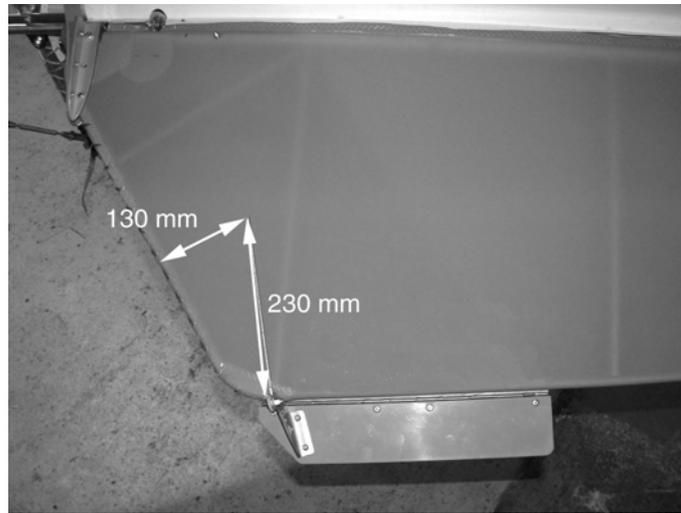

Figure 128; position of hole in top elevator surface.
- e) Melt a hole in the upper surface of the elevator fabric for the upper cable, 230mm forwards of the trailing edge and 130mm away from the tapered edge of the elevator, both distances measured at 90° to the respective edge, Figure 128.